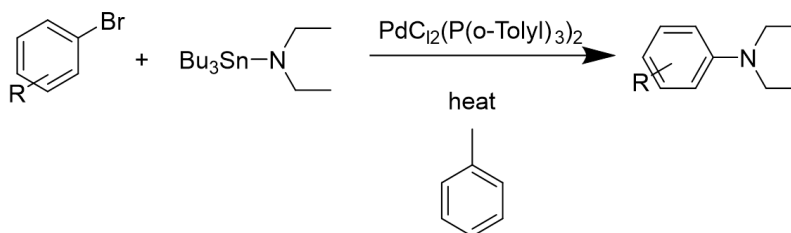

Figure 5: Buchwald-Hartwig (BH) cross-coupling reaction. (Figure derived from LibreTexts.)
In this Lab session, we will use BO to optimize a chemical reaction, the Buchwald-Hartwig (BH) reaction. The BH reaction is a palladium-catalyzed cross-coupling that forms C–N bonds between an aryl (or heteroaryl) halide and an amine. An example of BH reaction is shown in Fig. 5.